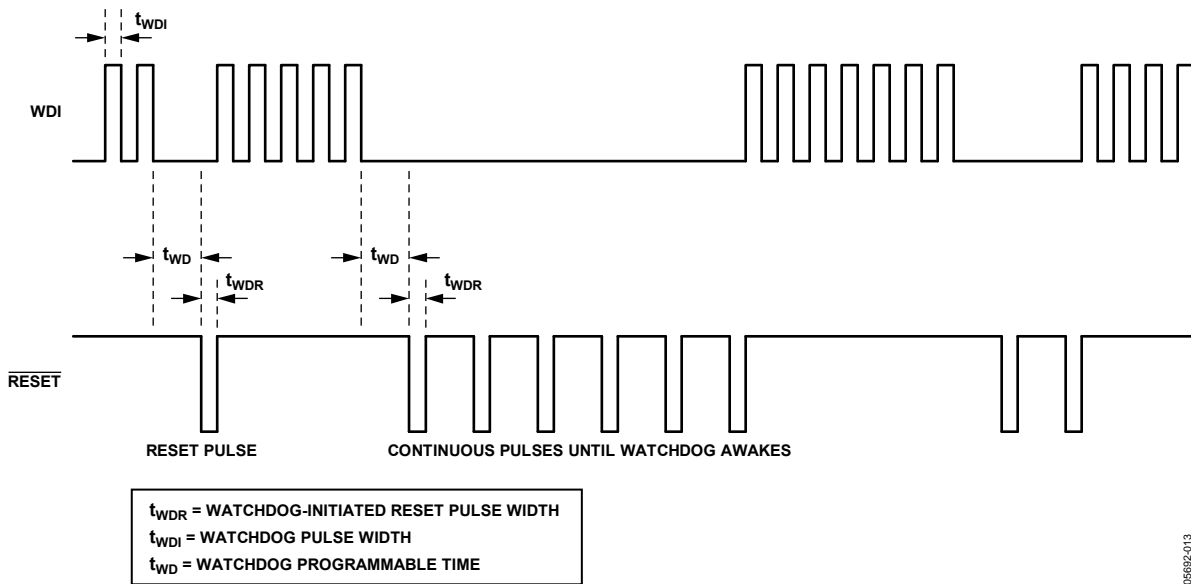
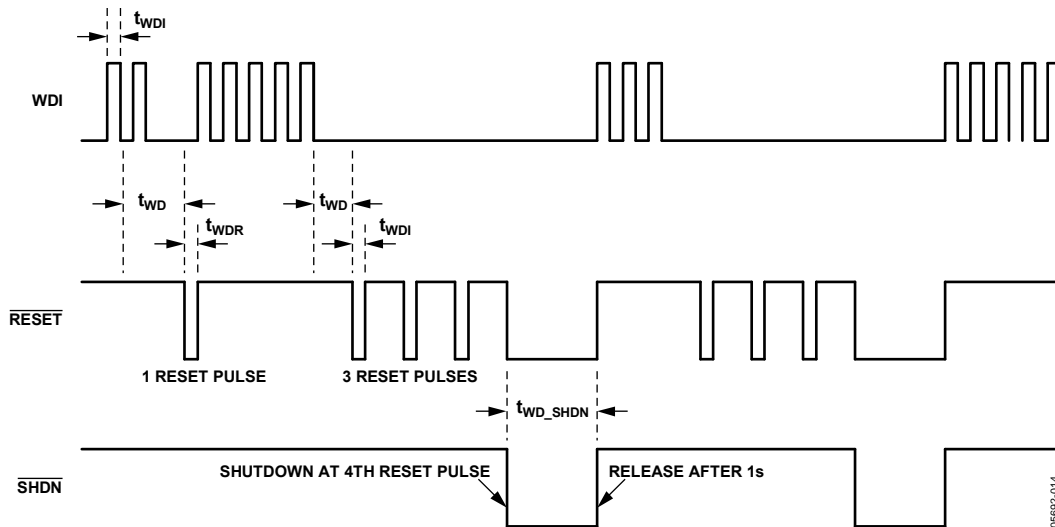

Figure 13. Standard Watchdog—Pulsing Reset Until Watchdog Awakes
Figure 14. Advanced Watchdog—SHDN Asserted After Three Trials of Resetting the Watchdog (SHDN Released After 1 Second and the Cycle Repeats)
In the default standard watchdog mode, if WDI remains either high or low for longer than the timeout period,  $t_{WD}$ , a RESET pulse is generated in an attempt to allow the system processor to re-establish the WDI signal. The RESET pulses continue indefinitely until a valid watchdog signal, a rising or falling edge signal at the WDI, is received. The internal watchdog timer clears whenever a reset is asserted. The standard WDI and RESET timing diagrams are shown in Figure 13.
The AD5100 can be programmed into an advanced watchdog mode. In this mode, if WDI remains either high or low for longer than the timeout period,  $t_{WD}$ , a RESET pulse is generated, as per standard mode. However, if the WDI input remains inactive after three such RESET pulses, concurrent with the fourth RESET pulse, SHDN is also asserted. SHDN is released after 1 second. These actions repeat indefinitely (unless action is taken by the user), if the processor is not responding. The advanced WDI and RESET timing diagrams are shown in Figure 14.
- When  $\overline{\text{SHDN}}$  output is asserted (see Figure 7 and Figure 14);  $\overline{\text{RESET}}$  follows  $\overline{\text{SHDN}}$  hold and delay timings if triggered by the  $\overline{\text{SHDN}}$  output
- When the external monitoring processor cannot issue the necessary WDI signal (see Figure 13 and Figure 14)